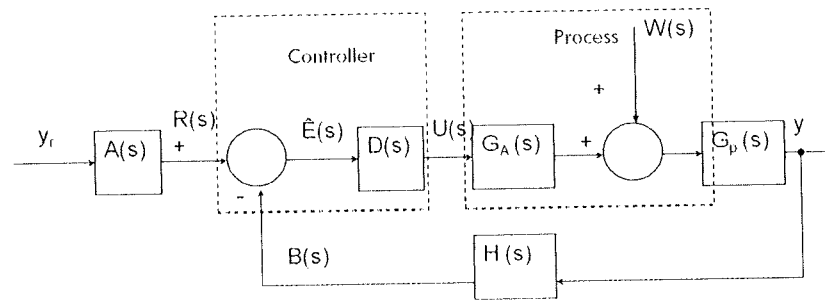

Figure 2 – Feedback control system
2. Figure 2 shows a feedback control system.
- [a] List down all the control ELEMENTs in the Figure 2.
- [b] List down all the SIGNALs in the Figure 2.